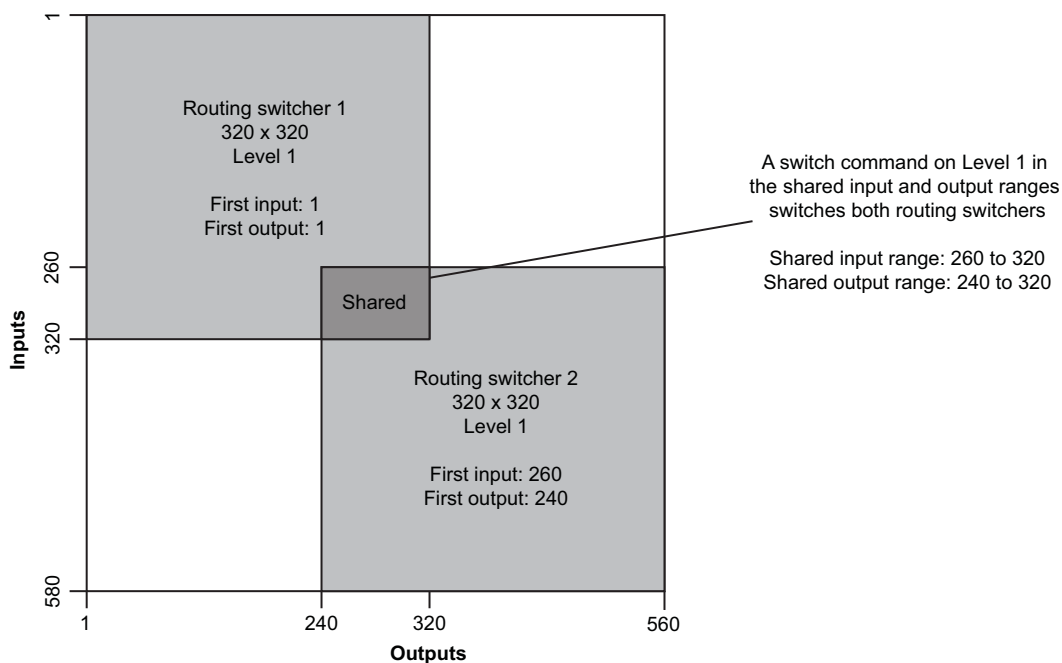

Figure 4.8 Offsetting Two Routing Switchers for Overlapping Inputs and Outputs
- with overlapping inputs and outputs (see **Figure 4.8**)